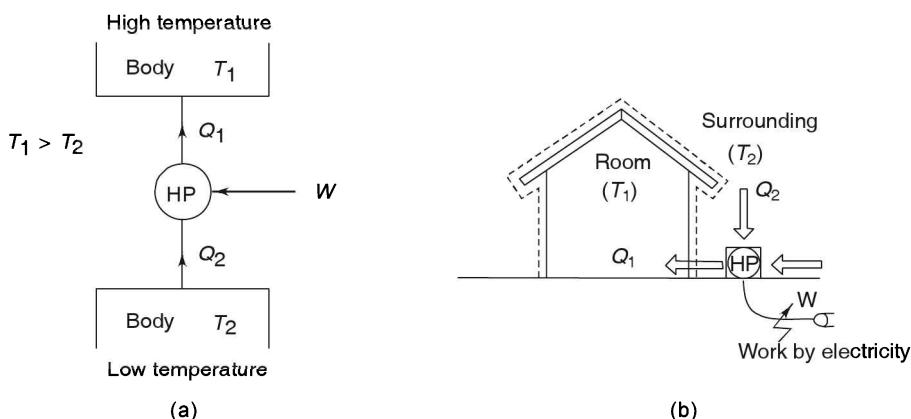

FIGURE 3.3 Heat pump.
A heat pump is a device used for extracting heat from a low temperature body and sending it to a high temperature body while operating in a cycle (Figure 3.3(a)). Transfer of heat from a low temperature body to a high temperature body is a non-spontaneous process. However, it is possible with the help of a heat pump which uses external work supplied to it. A heat pump is used in cold regions where temperature of the surroundings is low and room temperature is to be kept at higher temperature (Refer to Figure 3.3(b)). A heat pump picks heat (Q_2) from the surroundings (low temperature T_2) and delivers heat (Q_1) to the room which is at high temperature (T_1) using external work (W).